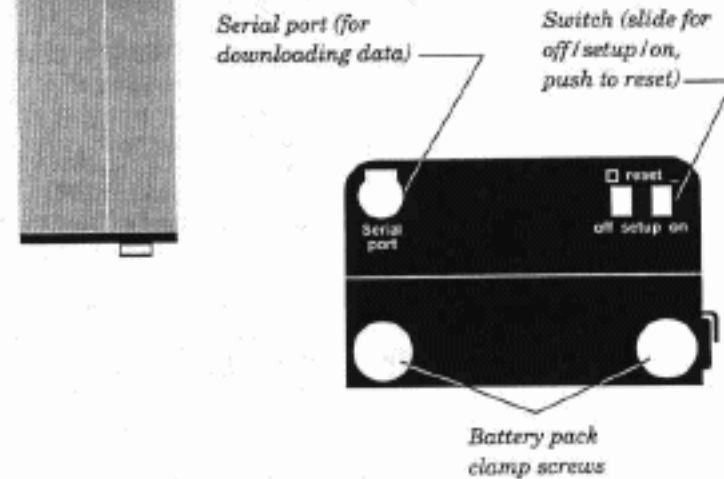

Fig. 2.04
**1. Turn on the instrument. Depress and slide the On/Off switch on the bottom of the instrument to the on position (Figure 2.04). Sometimes the instrument's battery saving features momentarily delay start up. If your NITON does not turn on immediately, turn it off, wait a few seconds, and turn it on again. Each time the NITON is turned on, the Main menu appears (Figure 2.05).**